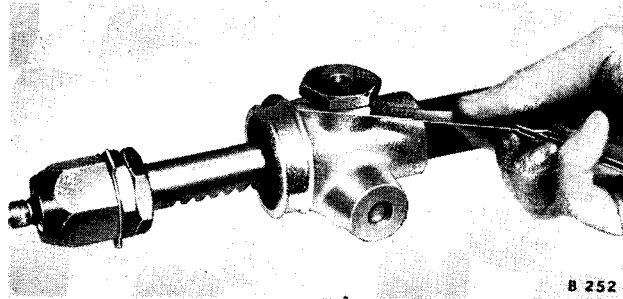
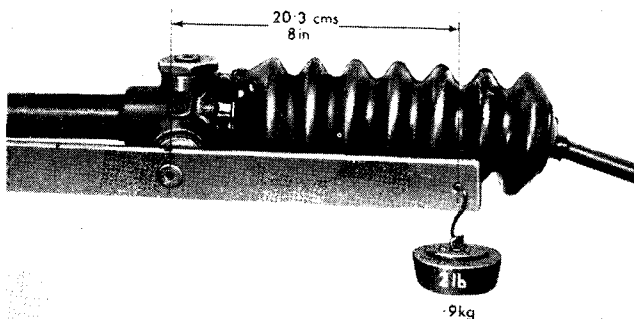

Fig. 19. Using feeler gauge to determine shim thickness required under cap nut
Fig. 20. Measuring load required to rotate pinion
5. Fit the plunger (31) and cap nut (27) to the pinion housing (25). Tighten the nut to eliminate all end float and, using feeler gauges, measure the clearance between the nut and housing as shown on Fig. 19. Remove the cap nut (27) and plunger (31).
7. Pack the unit with grease and assemble the cap nut (27), shim pack (29), spring (30) and plunger (31) to the housing (25) and tighten the cap nut.
8. When the nut is correctly adjusted, a force of 2 lb. (0.91 kg.) is required to rotate the pinion shaft at a radius of 8" (20.3 cm.) see Fig. 20. Check and re-adjust the unit, if necessary, by adding or subtracting shims from beneath the cap nut (27).